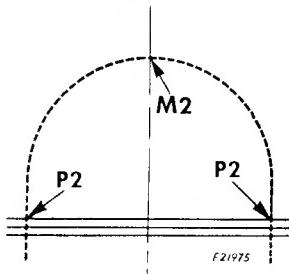

Fig. 82. Correct Path of
- The needle should reach the peak **M2**, Fig. 82, of its ascent, midway between the two extreme positions **P2**, Fig. 82 of the needle.
lever fork **J2**, reaches the opposite end of its swing, the pendulum movement should be completed, as shown in Fig. 82.
- The needle should begin and end its pendulum movement at the same height above the throat plate, as shown in Fig. 82.